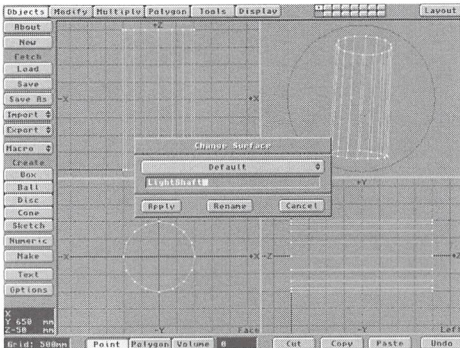
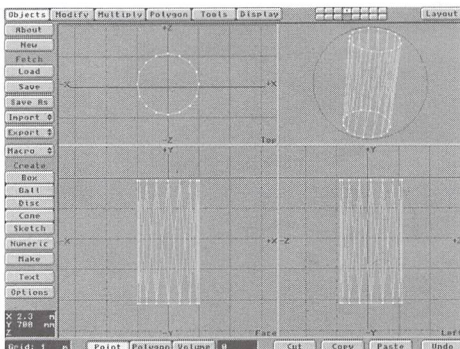
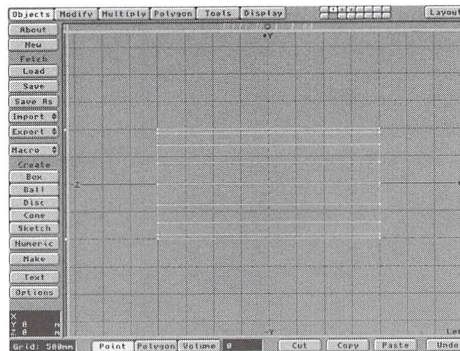

Figure 7: Creating a shaft of light in Modeler
Figure 8: The OscBeam object with tripled polygons
Figure 9a: The Shaft object before a 90-degree rotation
- In Figure 7, I went back into Modeler and reloaded the OscBeam/lwo object. After changing the surface name to "LightShaft," I rotated the entire object by hitting (r) while the cursor was located at the crosshairs in the Left view (Figures 9a and 9b). This orients the lightbeam in the Y axis. Finally, I went to the Polygon menu and tripled the polygons (Figure 8). This object was then saved as "Shaft.lwo."